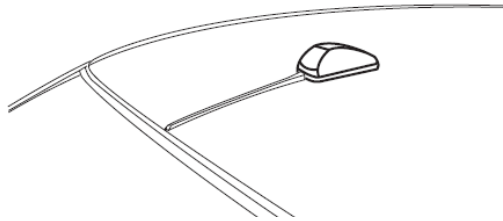

Figure 6 - FLO TV Antenna Final Installation
8. Place the FLO TV Antenna and antenna tail on the vehicle roof. The double sided tape and magnet will secure the antenna and antenna tail in the desired location. (See Figure 6, FLO TV Antenna Final Installation)